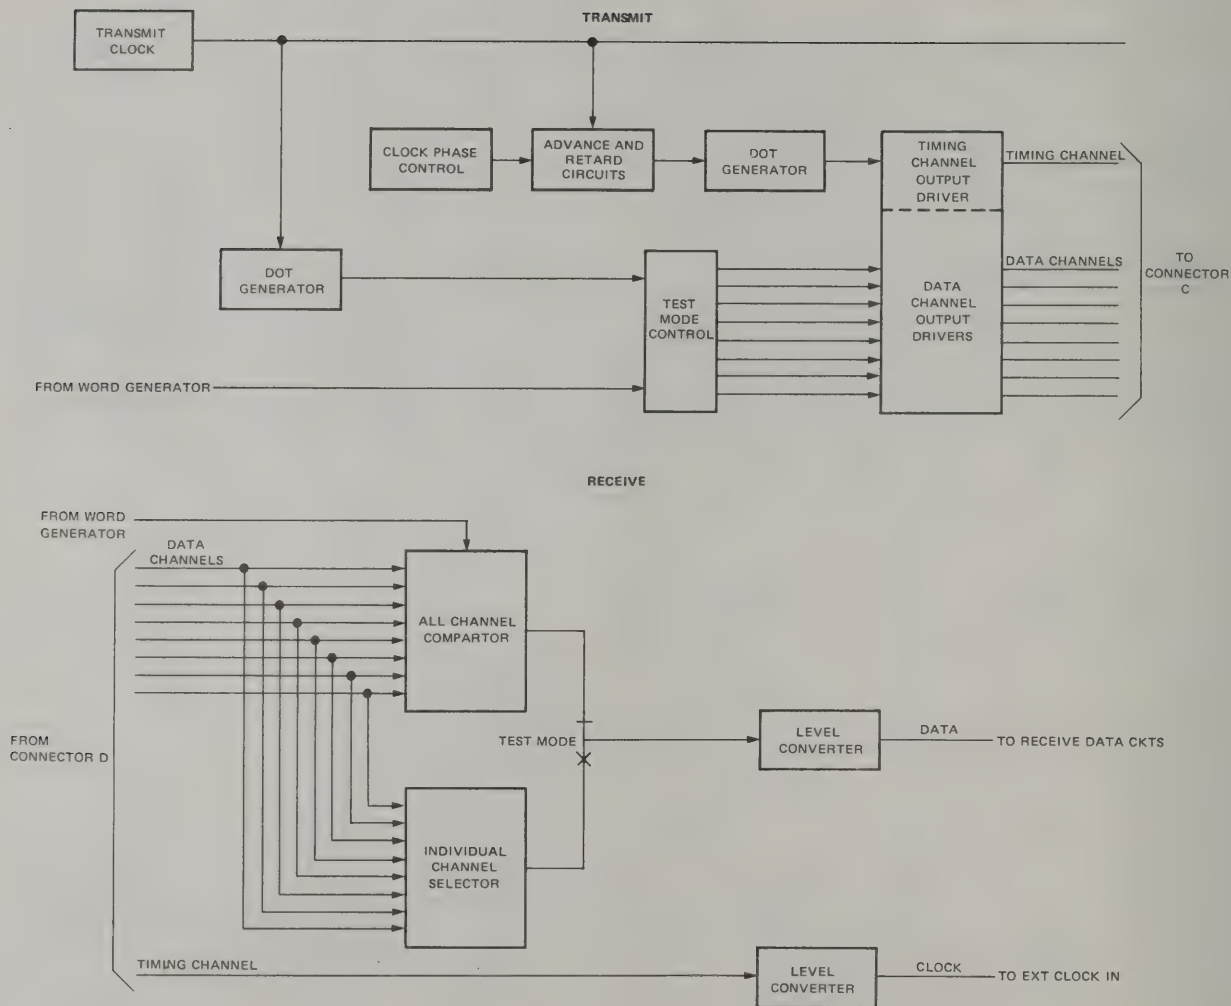

Figure 3-5. Parallel Data Transmit and Receive Circuits, Functional Block Diagram
**3.19** A functional block diagram of the parallel data data transmit and receive sections of the 1914C is shown in Figure 3-5. Selected by the 402 position of the TEST SET MODE switch, the parallel data transmit section transmits an eight-bit parallel data test pattern to parallel data circuits. It operates from an internally generated bit rate of 75 bits per second, or from one of the ten internally generated bit rates (150 to 2400 bits per second) under control of the TRANSMIT BIT RATE switch.